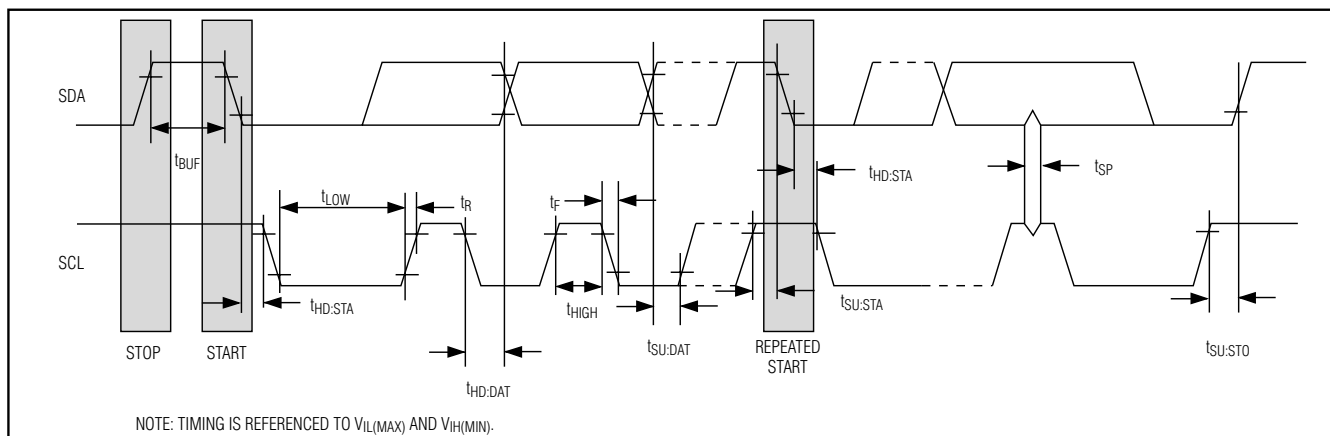

Figure 3. 2-Wire Timing Diagram
**Bit Write:** Transitions of SDA must occur during the low state of SCL. The data on SDA must remain valid and unchanged during the entire high pulse of SCL plus the setup and hold time requirements (see Figure 3). Data is shifted into the device during the rising edge of the SCL.
**Bit Read:** At the end of a write operation, the master must release the SDA bus line for the proper amount of setup time (see Figure 3) before the next rising edge of SCL during a bit read. The device shifts out each bit of data on SDA at the falling edge of the previous SCL pulse, and the data bit is valid at the rising edge of the current SCL pulse. Remember that the master generates all SCL clock pulses including when it is reading bits from the slave.
**Acknowledgement (ACK and NACK):** An Acknowledgement (ACK) or Not Acknowledge (NACK) is always the 9th bit transmitted during a byte transfer. The device receiving data (the master during a read or the slave during a write operation) performs an ACK by transmitting a zero during the 9th bit. A device performs a NACK by transmitting a one during the 9th bit. Timing (Figure 3) for the ACK and NACK is identical to all other bit writes. An ACK is the acknowledgement that the device is properly receiving data. A NACK is used to terminate a read sequence or as an indication that the device is not receiving data.